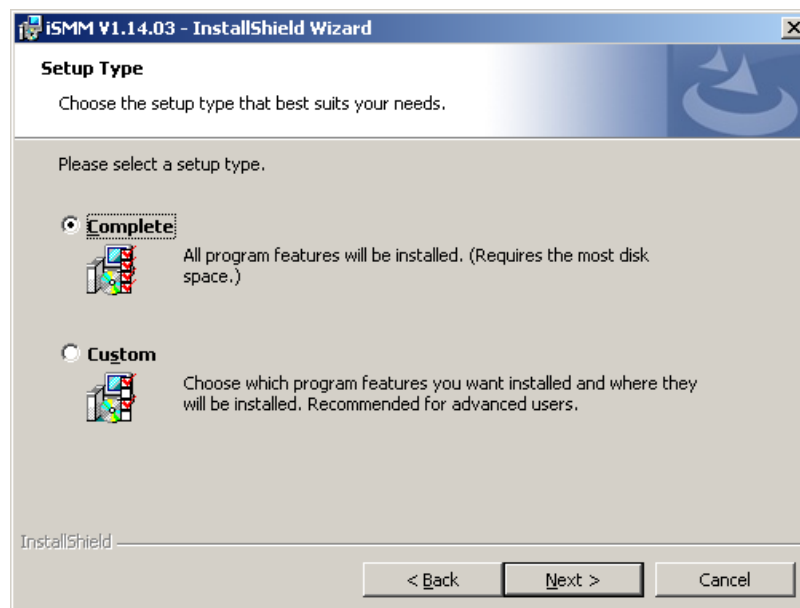

Figure 6-42: iSMM Setup Type
Step 9: Select a setup type in Figure 6-42 and click **NEXT**.